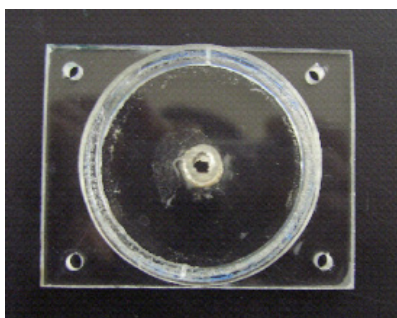

Fig. 1: Top view
2. Cut a 6 mm length of a 4.5 cm diameter circular Perspex tubing, drill two small holes on the rim for gas exhaust. Fix the prepared ring to the sheet from step (1) with trichloromethane.
4. Place the part obtained from step (3) on top of the ring obtained from step (2) and seal with trichloromethane. Make sure all joints are air-tight.
5. Drill four holes near each corner of the rectangular sheet for screws to go through so that the two half compartments can join together. Figures 1 and 2 show the finished half compartment.